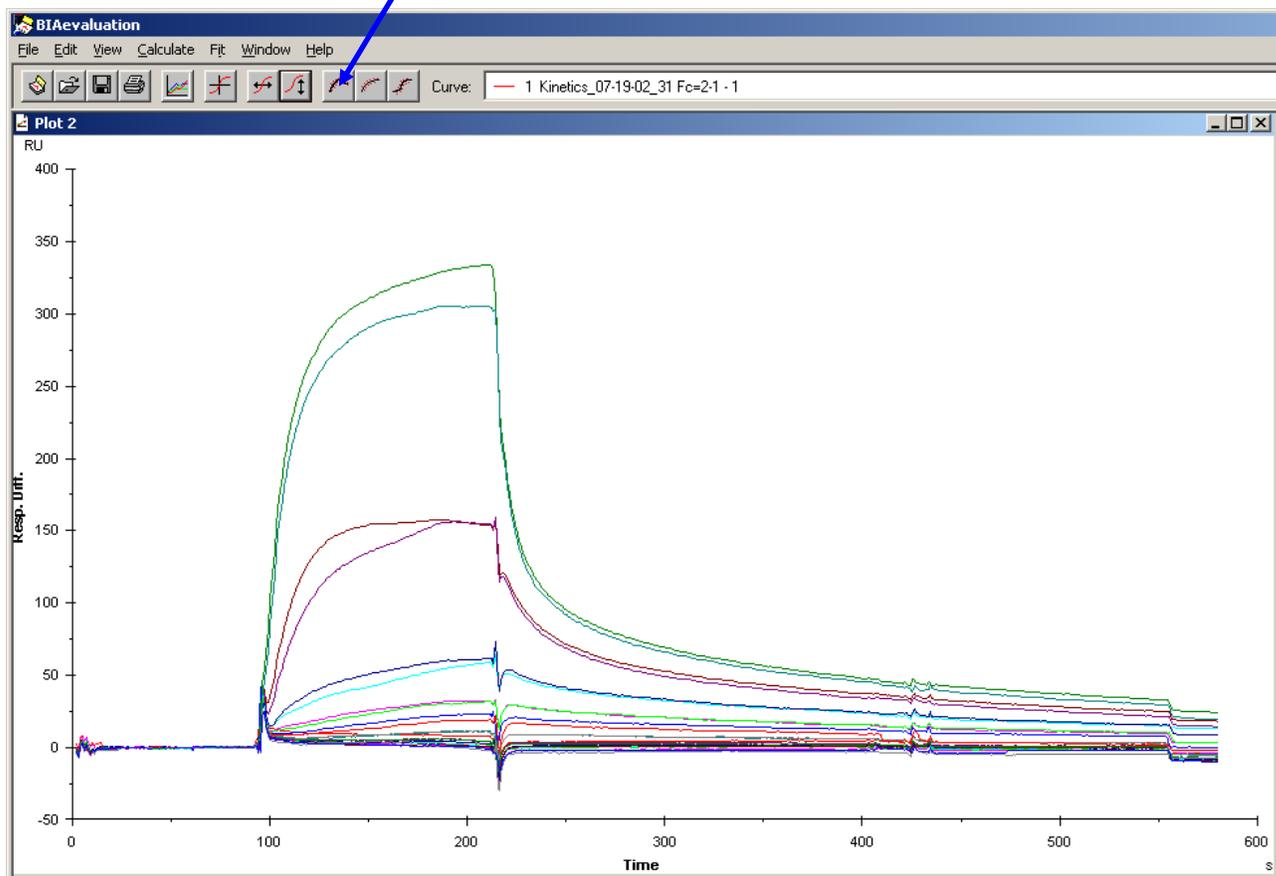

Figure 6.8
- 6.23 Window shown in fig 6.8 with sensorgrams normalized on the Y- axis will open.
- 6.24 Click on 'Fit Kinetics, simultaneous ka/kd' button (Fig 6.8).